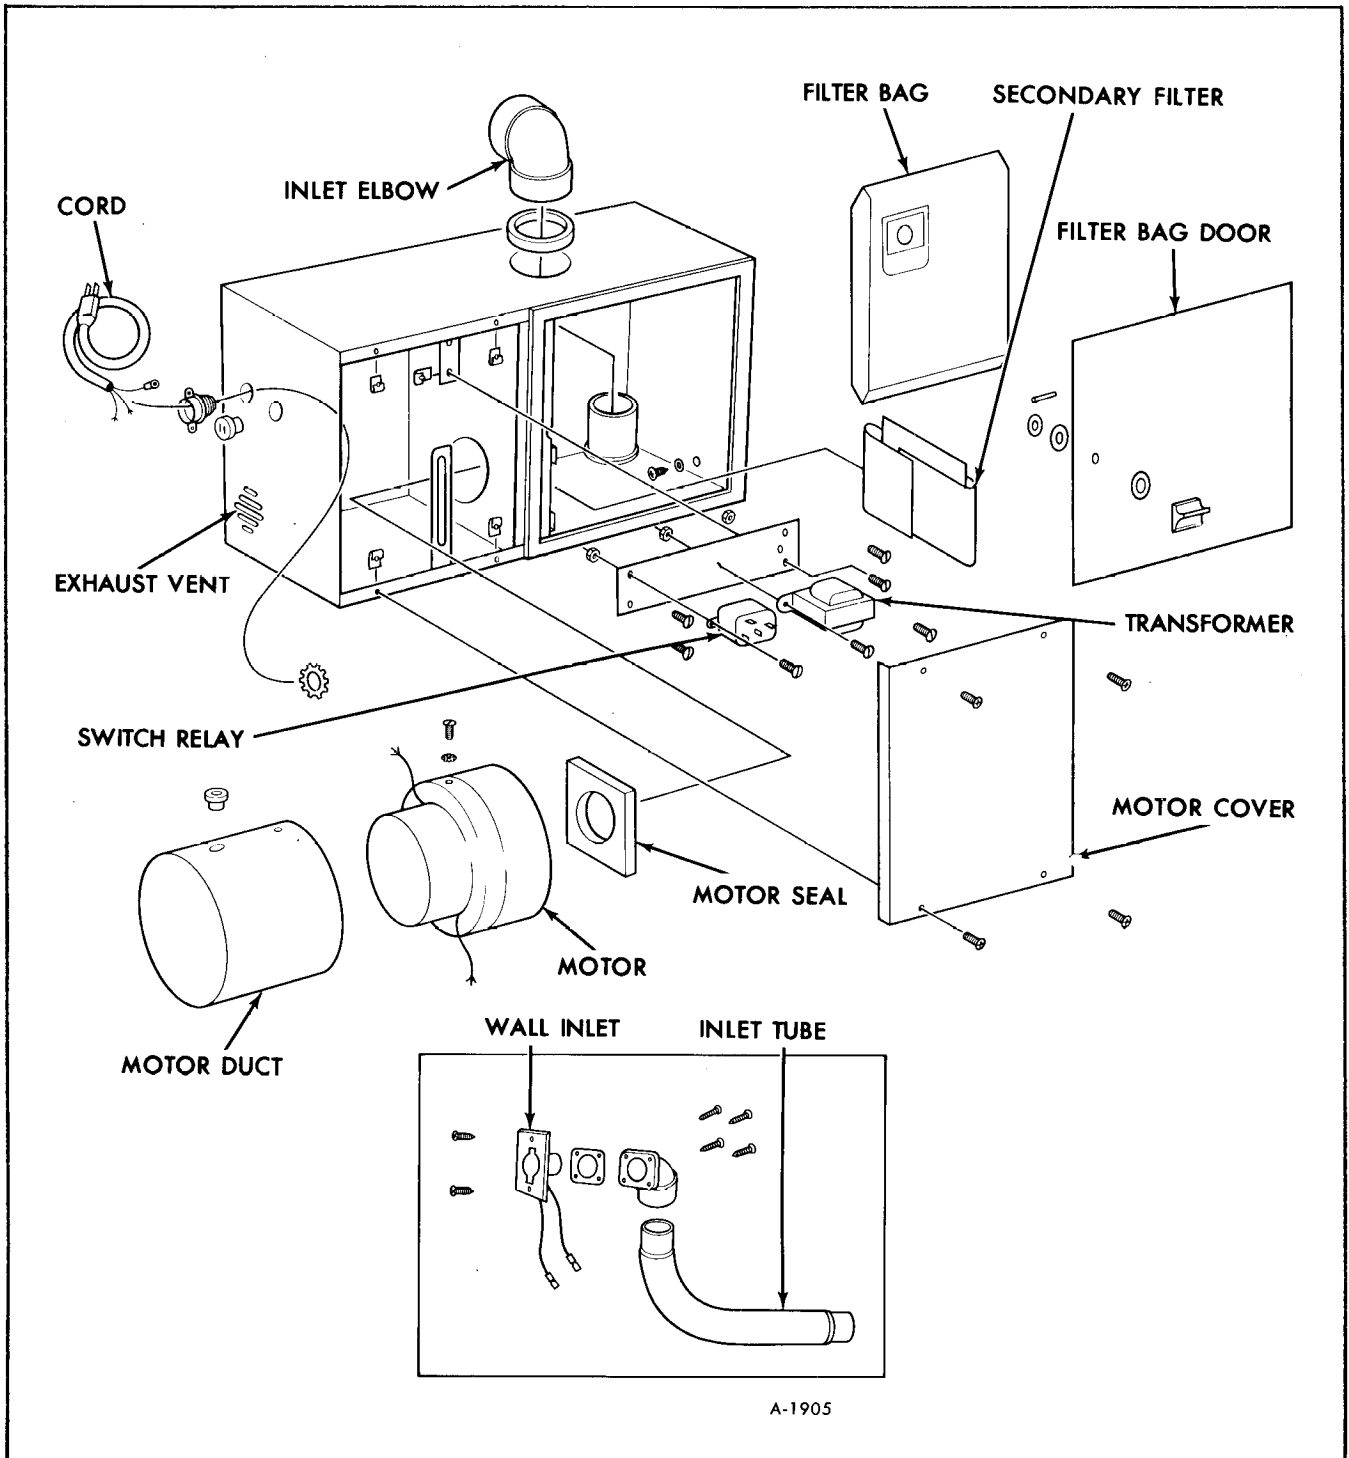

Figure 3-Vacuum Cleaner Components
a. Unplug the 120-volt motor wires at the relay (See figure 3).